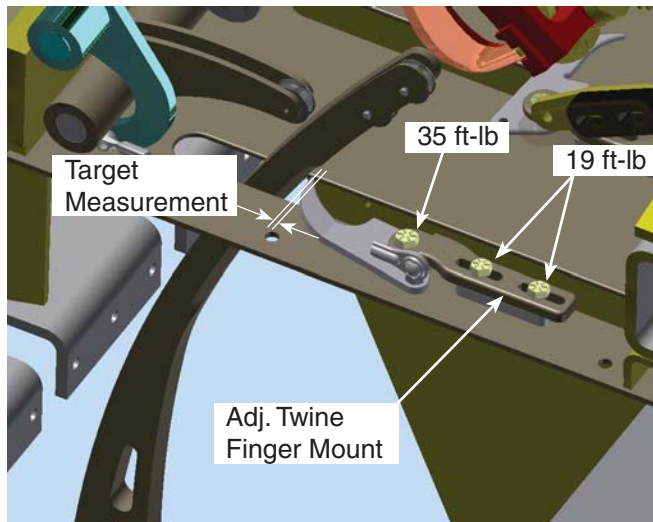

Figure 5-8. Twine Finger and Needle Clearance
Target measurement: 3/16" (+/- 1/16) (see Figure 5-8).
4. Torque the Adjustable Twine Finger Mount bolts as shown in Figure 5-8.